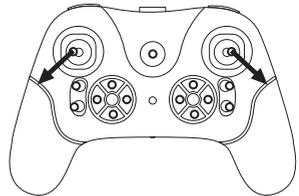

Fig. 5
- After finishing the calibration turn the throttle sticks outwards to unlock. See Fig. 5.